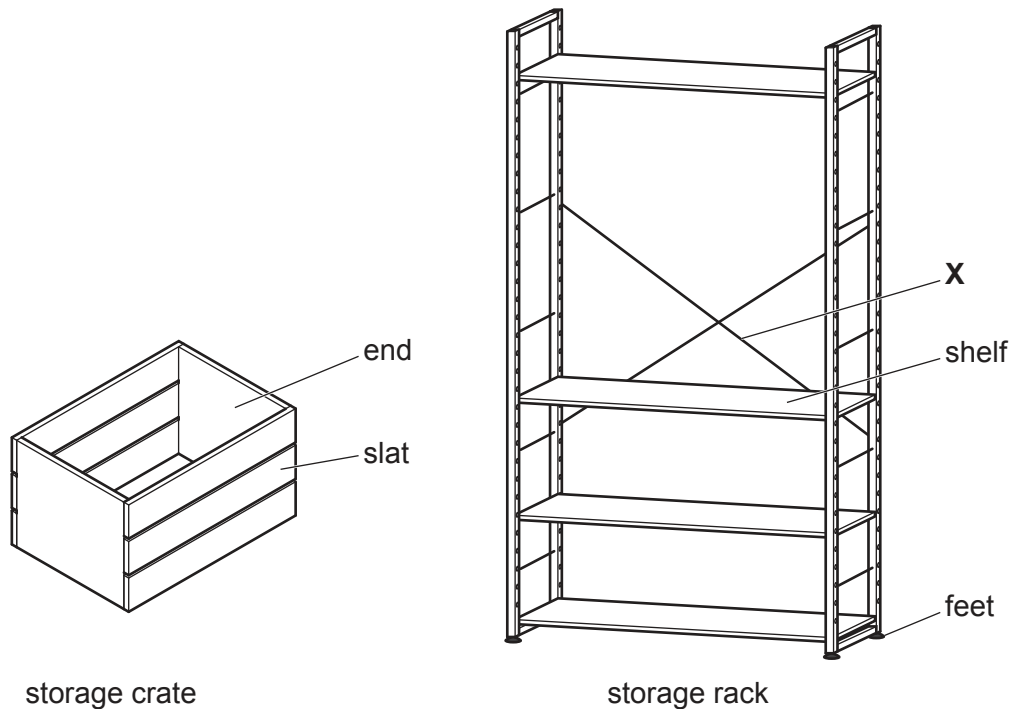

Fig. 5.1
- 5 Fig. 5.1 gives details of a storage crate and storage rack. The storage crate has MDF ends and corrugated slats that are joined together with PVA glue. The storage rack has adjustable shelves and feet.